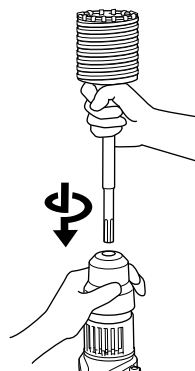

Fig. 21
- (2) Mount the core bit shank to the Rotary Hammer. (Fig. 21)